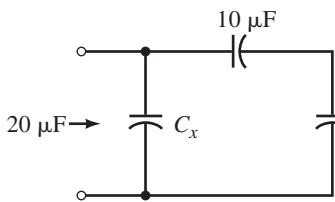

FIGURE 10-35
30. For Figure 10-35, determine C_x .
42. A dc source is connected to terminals $a-b$ of Figure 10-35. If C_x is 12 μF and the voltage across the 40-μF capacitor is 80 V,